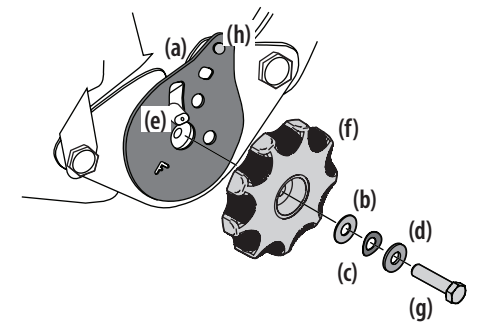

Figure 2-12
7. Remove the seat tilt knob assembly from the bag and install as shown in Figure 2-12.
Note: Be sure to orient the recliner plate (a) and install the plastic washer (b), spring washer (c) and metal washer (d) as shown in Figure 2-12. The plastic washer is on the inside.
8. Slide the recliner bearing plate (a) onto the recliner pin (e). Refer to Figure 2-12.
- Use a wrench to hand tighten the hex screw (g) until the recliner knob (f) is difficult to turn. Refer to Figure 2-12.
- Gradually loosen the hex screw (g) until the recliner knob moves freely. Do not loosen the hex screw (g) more than one full turn. Refer to Figure 2-12.
- Securely install the 1/4" nut onto the clinch-stud (h) and rotate the recliner knob to check the operation of the seat. Refer to Figure 2-12.